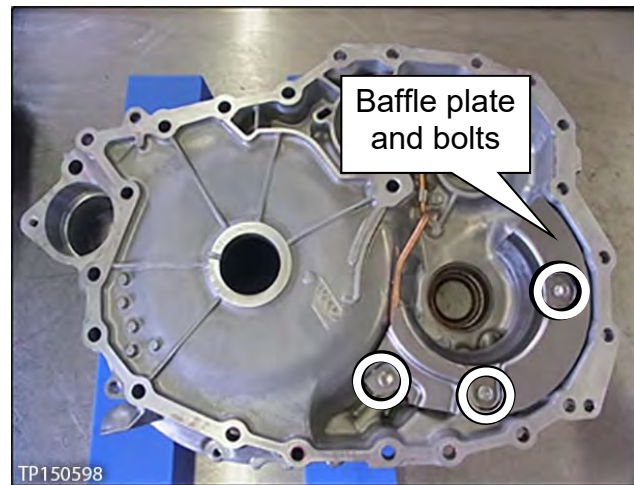

Figure 134
a. Remove the three bolts, and then remove the baffle plate from the converter housing (Figure 134).